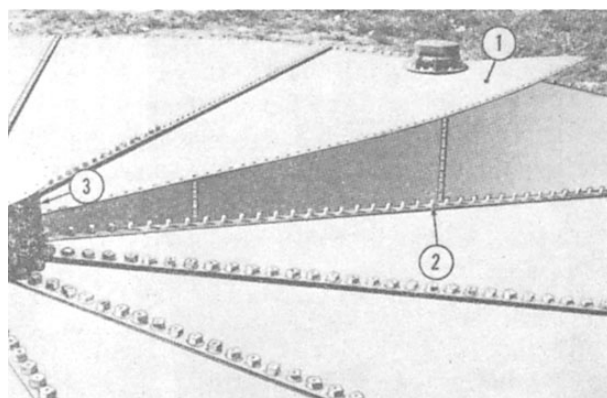

Figure 9-20.—Installing last deck plate.
**LAST DECK PLATE.**— Raise the last deck plate before the next-to-last plate is installed. Raise the right lap seam of the first deck plate (fig. 9-20, #1). This is necessary to permit the installation of the last plate.
Install the screen ring on the top flange of the dome (fig. 9-20, #3). Insert the flange bolts through the cover, the dust restrictor ring, the steel pipe sleeve spacers, and the top flange of the dome (fig. 9-20, #3), in that order. Apply the nuts to the bolts and tighten.